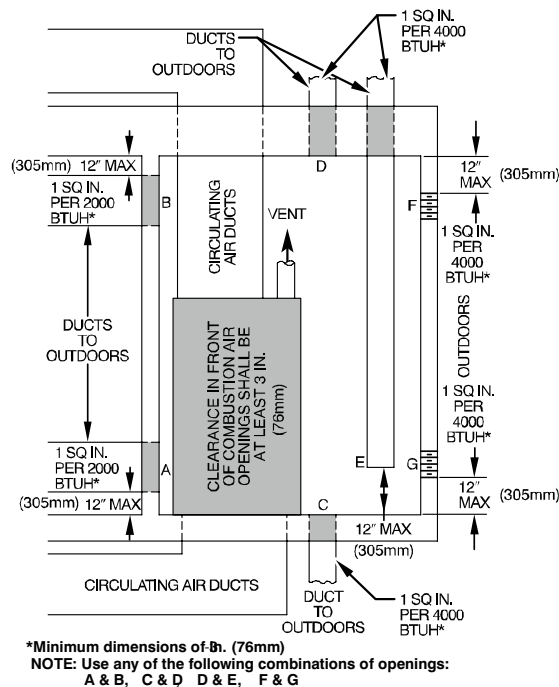

Fig. 6 – Air for Combustion, Ventilation, and Dilution for Outdoors ^{L12F012}
2. **Fig. 6** illustrates how to provide TWO OUTDOOR OPENINGS, one inlet and one outlet combustion and ventilation air opening, to the outdoors.
- b. Size openings and ducts per **Fig. 6** and **Table 4**.
- c. TWO HORIZONTAL DUCTS require 1 sq. in. (645 sq. mm) of free area per 2,000 BTU/h (1,100 mm²/kW) of combined input for all gas appliances in the space per **Fig. 6** and **Table 4**.
- d. TWO OPENINGS OR VERTICAL DUCTS require 1 sq. in. (645 sq. mm) of free area per 4,000 BTU/h (550 mm²/kW) for combined input of all gas appliances in the space per **Fig. 6** and **Table 4**.
- 1 sq. in. (645 sq. mm) of free area per 3,000 BTUh (734 mm²/kW) for combined input of all gas appliances in the space per Fig. 6 and Table 4.